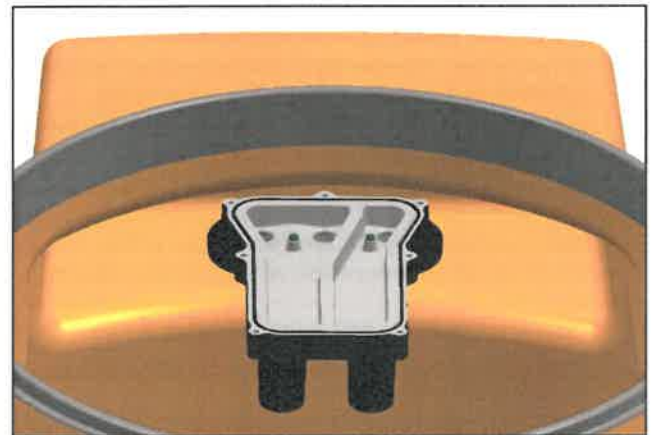

Figure 17
d) Remove cover bolts (1/2" socket) and cover from CEJ box. See Figure 17.